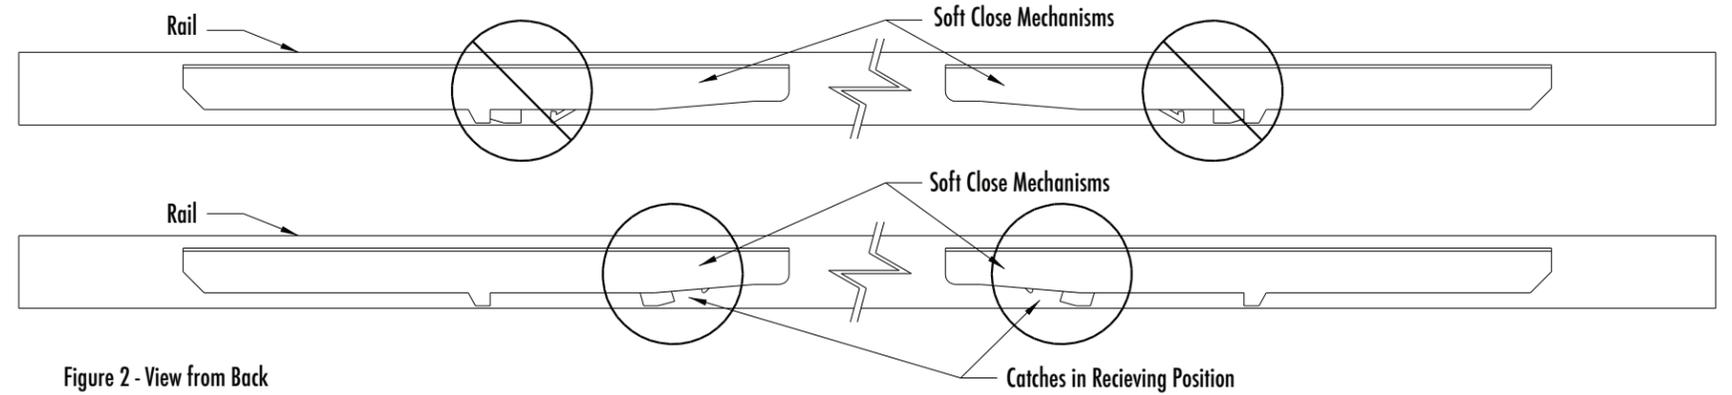

Figure 2 - View from Back
Step 4) With the door prepared, hang the door in readiness to install the trigger arms. Note, keep the door away from the Soft Close Mechanisms for ease of Trigger Arm installation. Before installing, set both of the Soft Close Mechanisms into the catch receiving position. If the catch is in the closed position (non-receiving), use your finger to slide the catch open (see Figure 2). Repeat for the second Soft Close Mechanism on the rail, for correct operation.